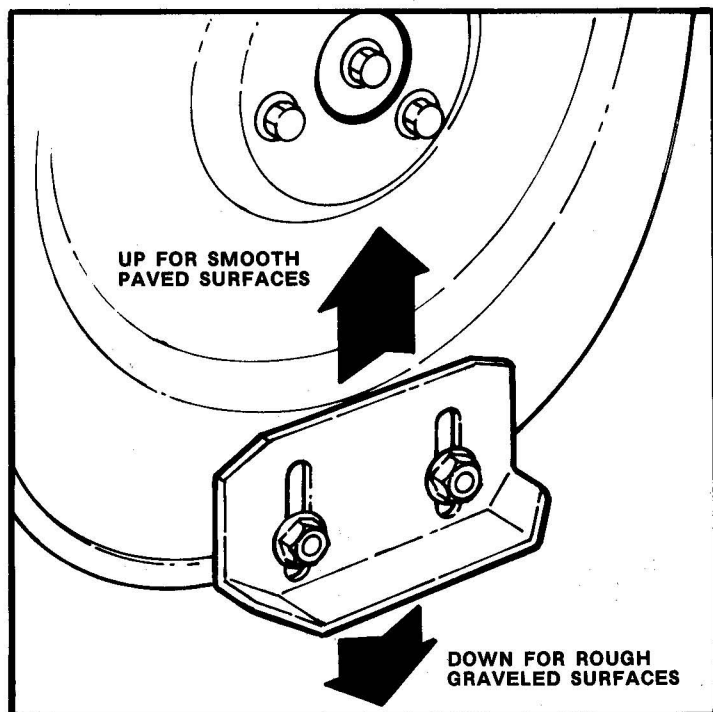

FIGURE 3.7
- E. **RESET RUNNERS** to suit area to be cleared. Lower skid shoes to provide greater clearance over gravel, or raise the shoes for smooth, paved surface. Refer to Figure 3.7, SKID SHOE ADJUSTMENT.
The skid shoes should be lowered to raise the blower housing to clear gravelled or rough surfaces. If necessary, adjust until almost even with the edges of the housing to allow clearing down to smooth paved surfaces. Note that the skid shoes can be installed upside down to track better over icy or hard-packed surfaces. To adjust the skid shoes, block under the lower edge of the blower housing. Loosen the retaining nuts and slide shoe up or down to desired height. Retighten the nuts. Set both skid shoes in the same position. See Figure 3.7.